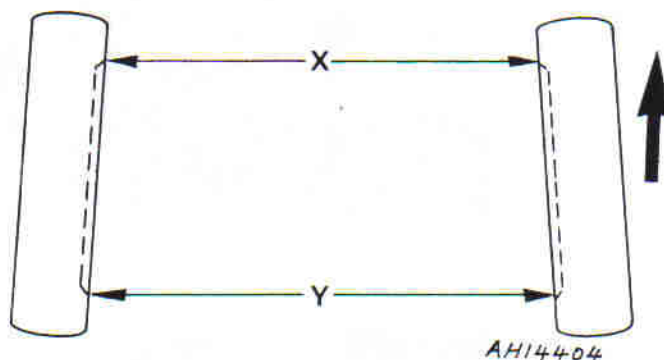

Fig. 9.3 Front wheel alignment diagram (Sec 10)
- 4 Toe can be defined as the amount by which the distance between the front of the inner wheel rims differs from the same distance measured between the rear of the inner wheel rims, measured at hub height (see Fig. 9.3).
- 8 Measure distance 'Y' in Fig. 9.3.